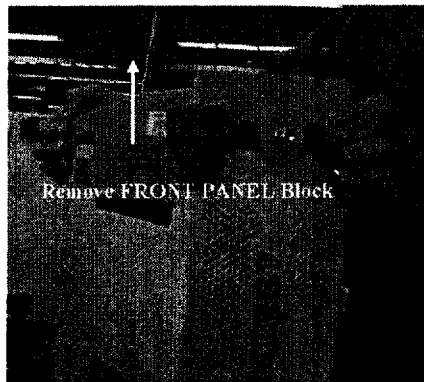

Figure 5-3 Removal of Front Panel Block
4. Remove FRONT PANEL block, refer to Figure 5-3.